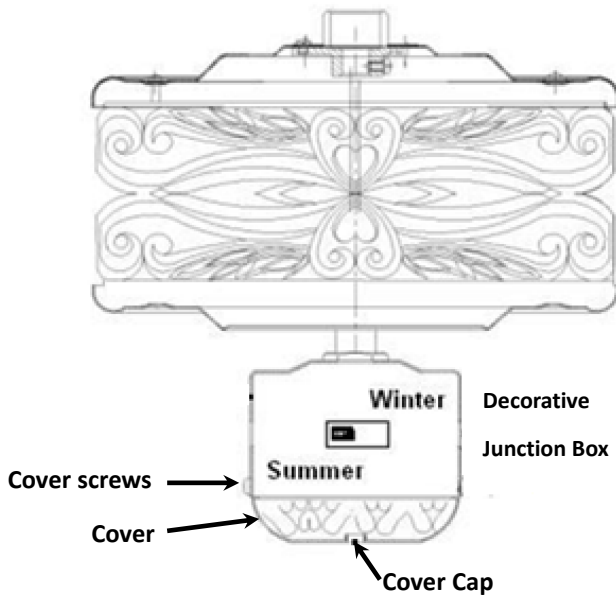
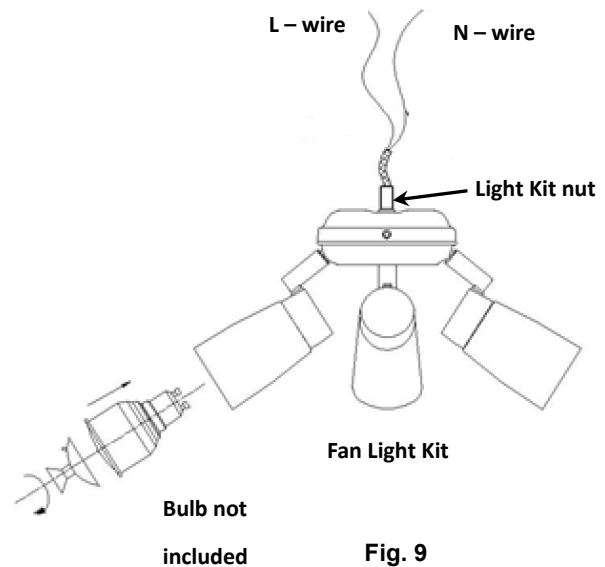

Fig. 8
Fig. 9
1. Take off the cover from the decorative junction box by loosening the cover screws (Fig.8)
3. Insert the L and N light wires (Fig. 9) through the hole of the cover. (Fig.8)
5. Connect the L and N light kit wires to terminal block inside decorative junction box and secure the light kit nut (Fig. 9) to the cover (Fig.8).
6. Secure the cover (Fig.8) and the light kit (Fig.9) assembly back to decorative junction box by 3 screws.